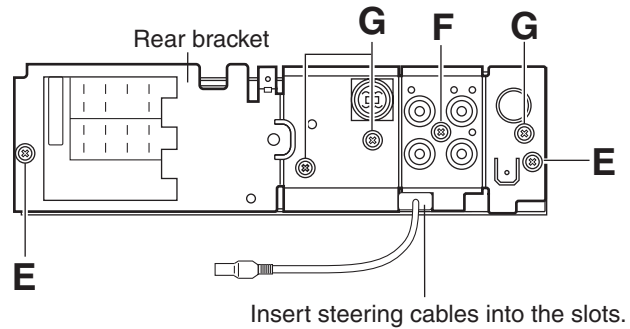

Fig.6
3.1.5 Removing the rear panel (See Fig.6)